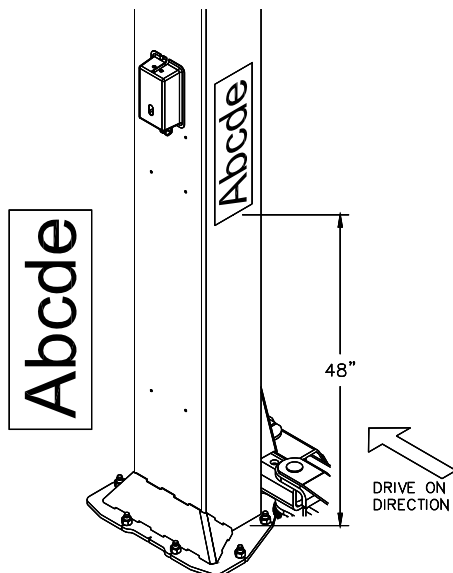

Fig 9 – Decal Placement
39) Apply the decal 48" from the top of the base plate, **Fig 9**.